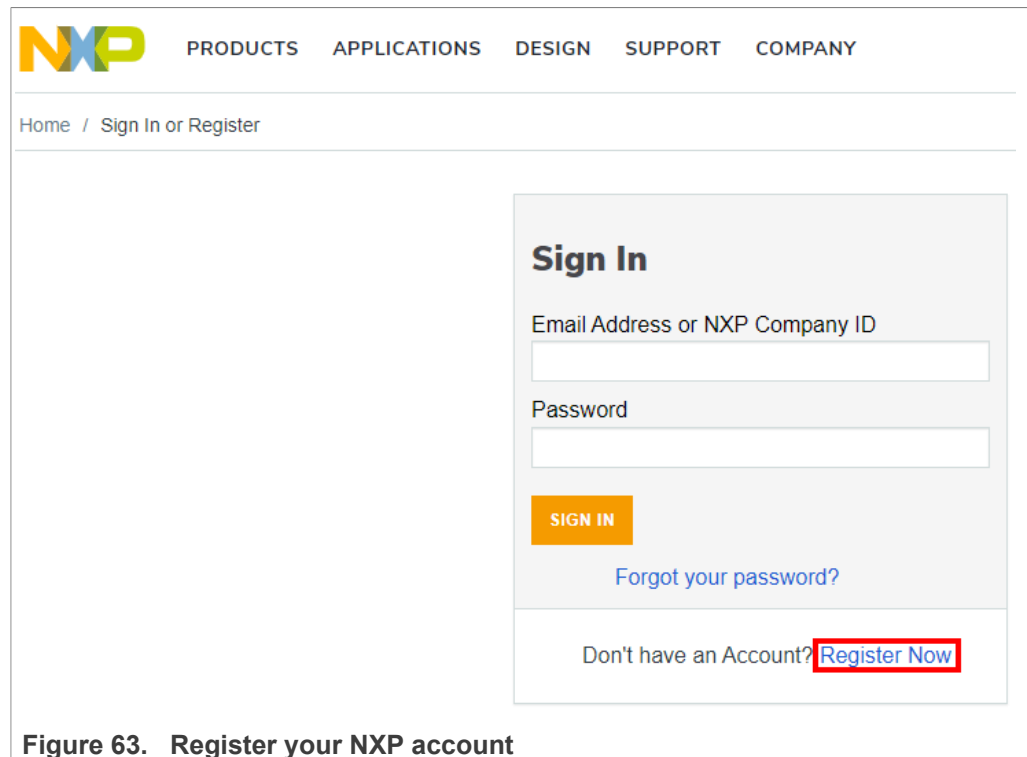

Figure 63. Register your NXP account
2. You will be asked to sign-in with your account at the NXP website. If you do not have an account, click on **Register Now** as shown in Figure 63: